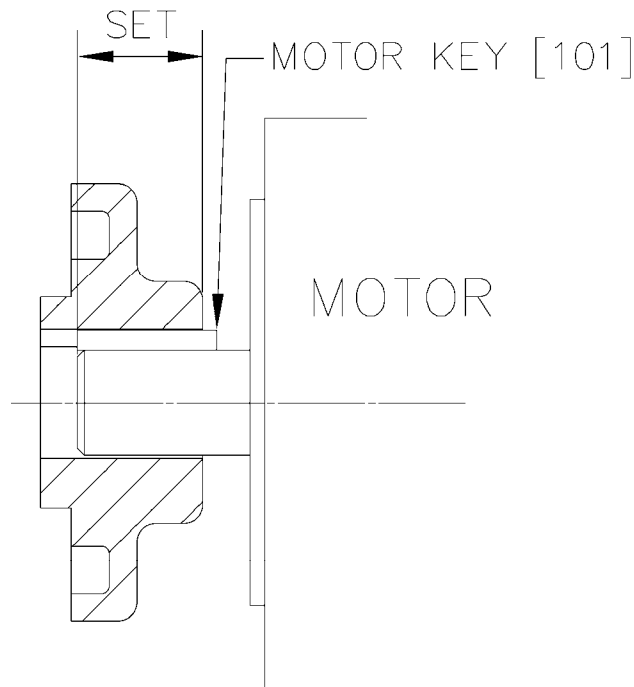

Figure 16. Motor Coupling Setting
3. Measure and mark the setting distance on the motor shaft as per Table 5 or Table 6. Install the flexible coupling hub with motor key [101] on the motor shaft as per the marking (See Figure 16). Tighten the hub setscrews to the torque value shown in the APPENDIX, Page 105. Turn the motor shaft by hand to check that the shaft rotates freely.